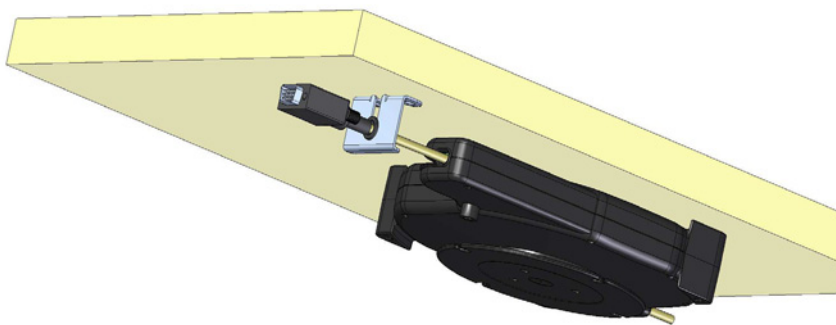

Figure 2: Mounting the K-Able Box and Cable Exit Bracket Horizontally
To mount the K-Able Box horizontally as illustrated in the example in Figure 2:
1. Position the **K-Able Box** relative to the edge of the table as shown in Figure 2 and secure it using the four wood screws supplied.